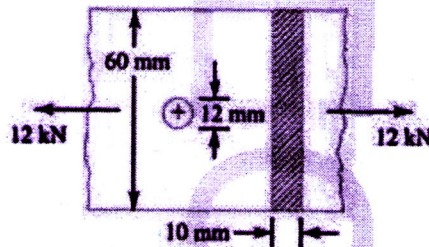

Fig. 2
- 16 a) Explain briefly general consideration in designing a machine component (8)
- b) Find the maximum stress induced in a rectangular plate 60 mm × 10 mm with a hole 12 mm diameter (Fig. 2) taking stress concentration into account: and subjected to a tensile load of 12 kN. (6)